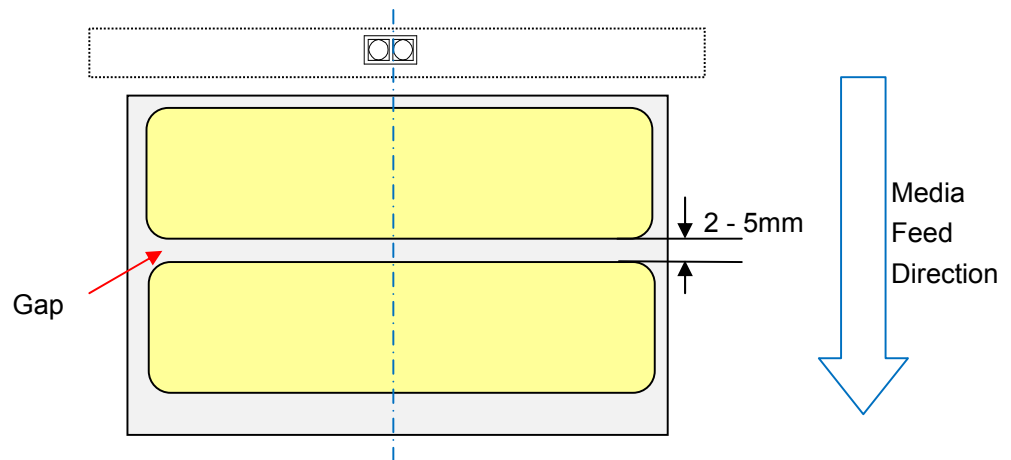
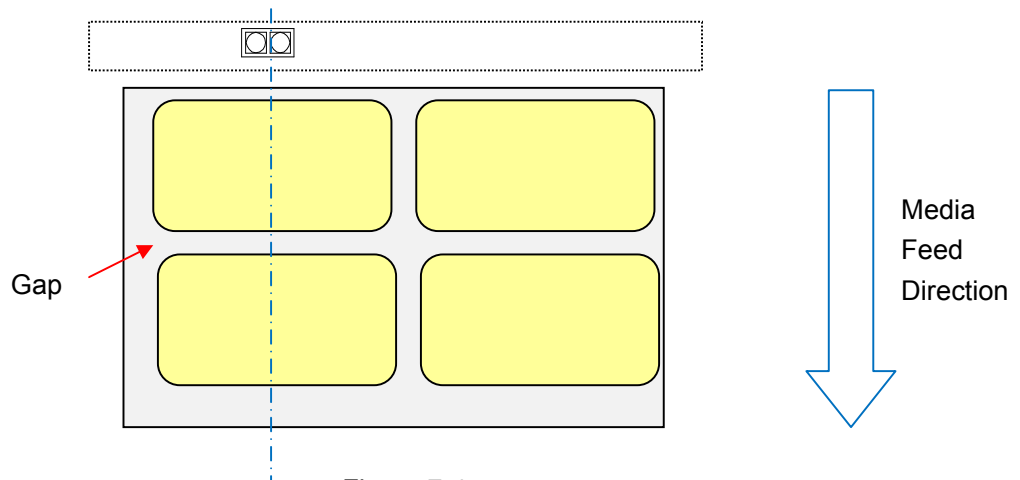
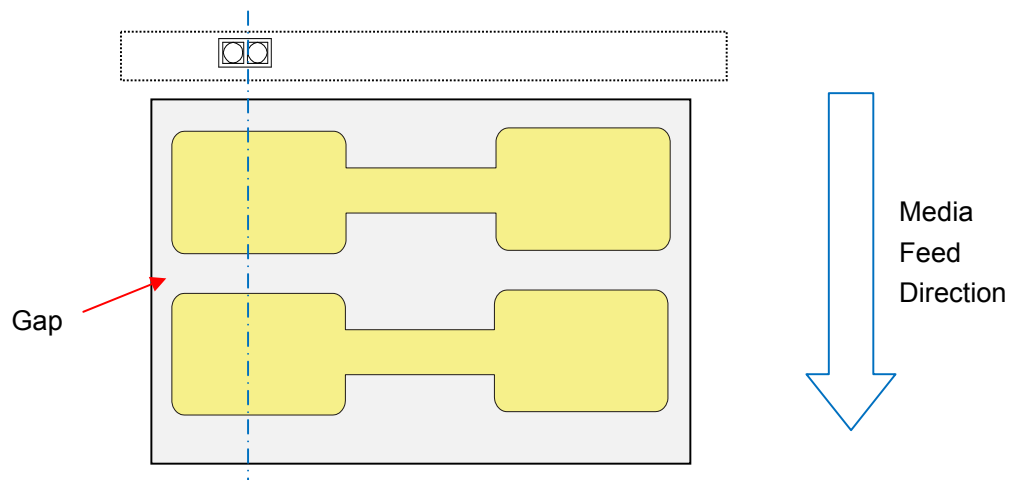

Figure 7-3
Figure 7-4
Figure 7-5
4. Slide the media sensor to the appropriate position (refer to Figure 7-3, Figure 7-4 and Figure 7-5).